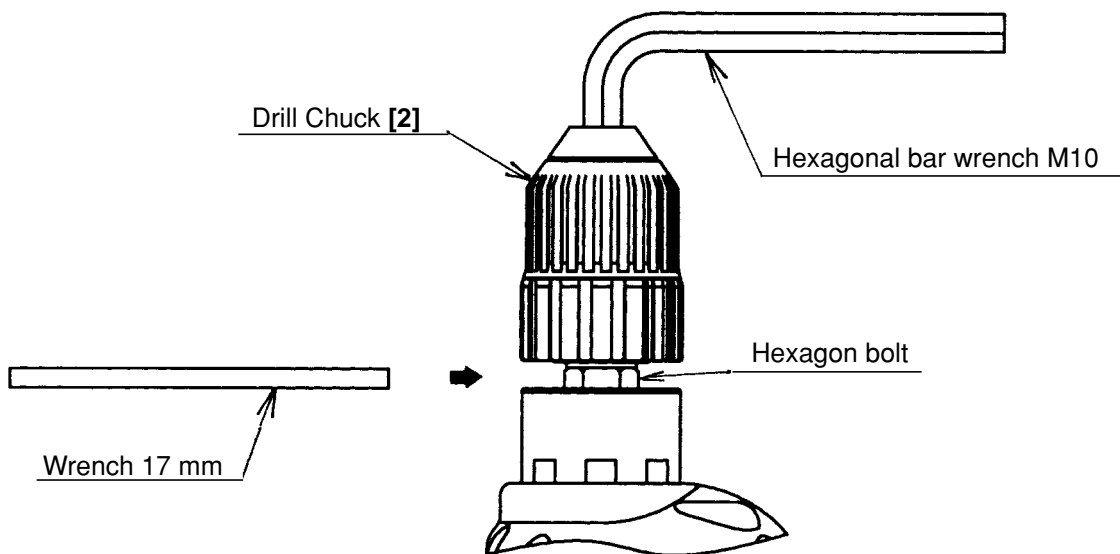

Fig. 7
#### (1) Removal of the Drill Chuck [2] (See Fig. 7.)
(b) Fix the hexagonal bar wrench M10 into the Drill Chuck [2] as indicated in Fig. 7. Next, apply a wrench 17 mm to the hexagon bolt on the spindle to hold it steadily, and remove it by turning counterclockwise. If it is difficult to loosen, use a pipe extension or similar tool.